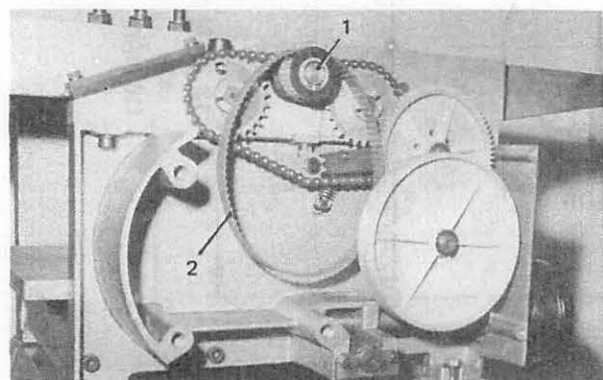

Fig. 3
4. Place the toothed belt on to the toothed-belt pulley of the cutter spindle (Fig.3, No.1 and 2).